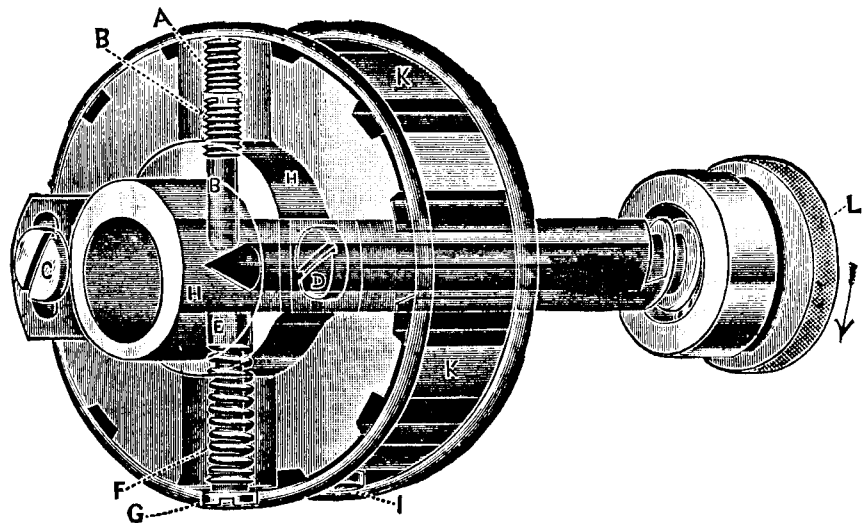

Fig. 19
The figures on the feed regulating spindle head, showing through the notch in the balance wheel, indicate the number of stitches to the inch which should be made. If more or less stitches are made, adjust as follows: Remove screw (A, Fig. 19) set the indicator at 8 and the feed dog at its highest point, a full tooth showing above the throat plate, then adjust screw (B) until eight stitches to the inch is the result and replace check screw (A) firmly, making the master adjustment, which controls the other numbers of stitches as indicated.
To Set the feed regulator so that a stitch longer than the one desired cannot be made.—Turn spindle head (L, Fig. 19) in the direction indicated by the arrow and make the longest stitch possible; remove check screw (A) and turn screw (B)
Remove screws (B and I, Fig. 19) and compression screw (G); loosen the set screw in the belt pulley also loosen the screw and remove the position screw from the feed lifting eccentric and from the needle bar crank; loosen the set screws from the needle bar frame driving gear pinion (on the arm shaft) and draw the shaft out from the balance wheel end of the machine.